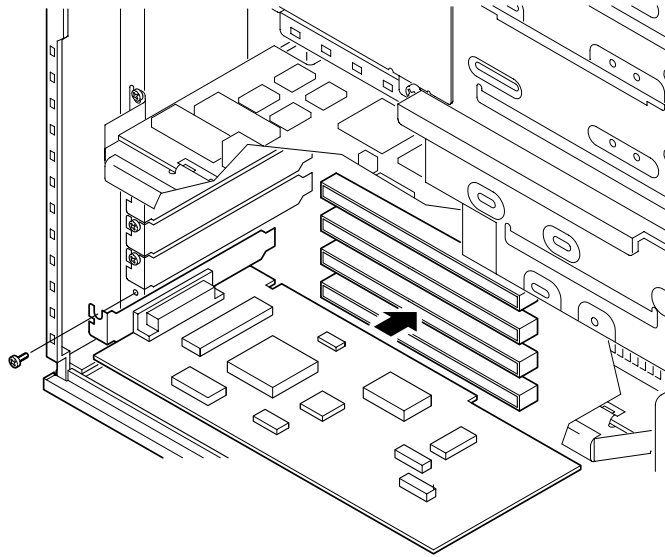

Figure 3-6. Installing an Expansion Board
4. Insert the new expansion board into the socket in the motherboard. Push the board firmly into the socket (Figure 3-6).